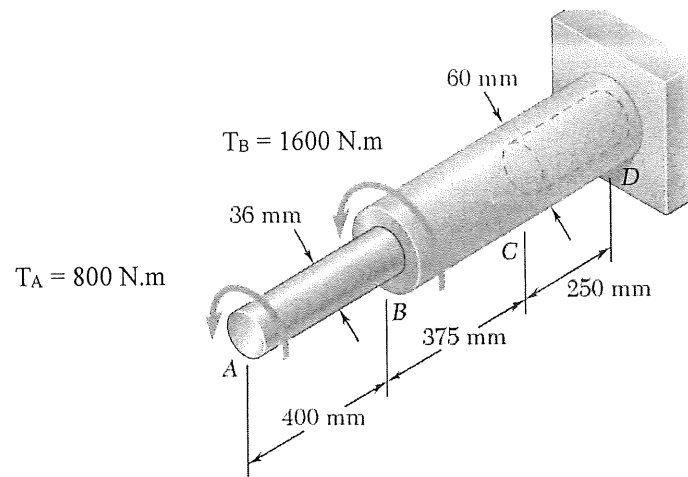

Figure 4
- a) Figure 4 shows the aluminum rod AB ( $G = 27 \text{ GPa}$ ) is bonded to the brass rod BD ( $G = 39 \text{ GPa}$ ). Knowing that portion CD of the brass rod is hollow and has an inner diameter of 40 mm, compute the angle of twist at A in ( $^\circ$ ).